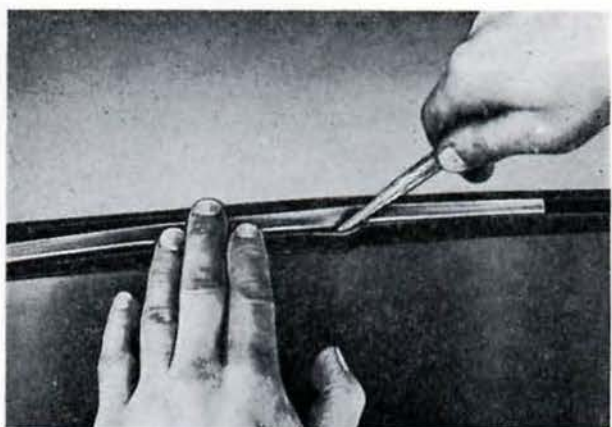

Fig. W.4. Installing the windshield weatherstrip insert, using a wooden spike
8. Smear the insert groove in the weatherstrip with soft soap and install the insert, using a wooden spike as shown on Fig. W.4. The ends of the insert should meet in the centre of the top of the glass.